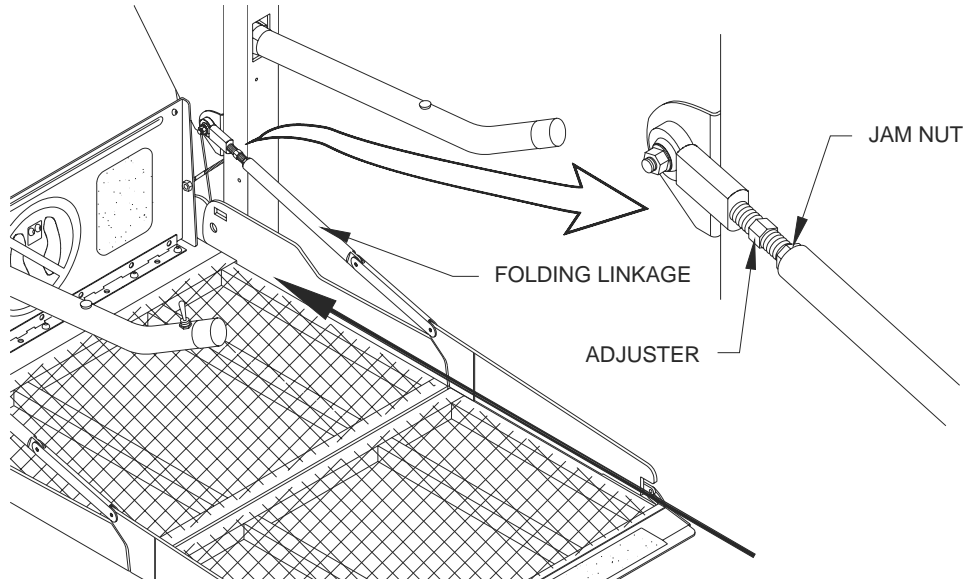

FIGURE 2-16: ADJUSTMENT HARDWARE FOR PLATFORM FOLDING LINKAGE
- 2) Refer to **Figure 2-16**. Loosen the jam nuts (right and left sides) and use the adjusters to set the length of the linkages so that the front and rear portions are in the same plane; the two surfaces of the platform portions must be flat without any apparent folding along the hinge. Verify that the tension of both linkages is the same by sighting along outer edge of the platform (arrow in figure). Tighten jam nuts.